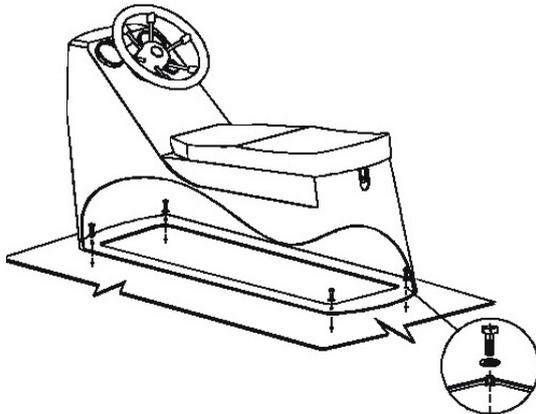

Fig. 7. Installation of steering console CS-01.
- Fix steering console to the deck by means of bolts M8*30 and toothed lock washer (see Fig.7).